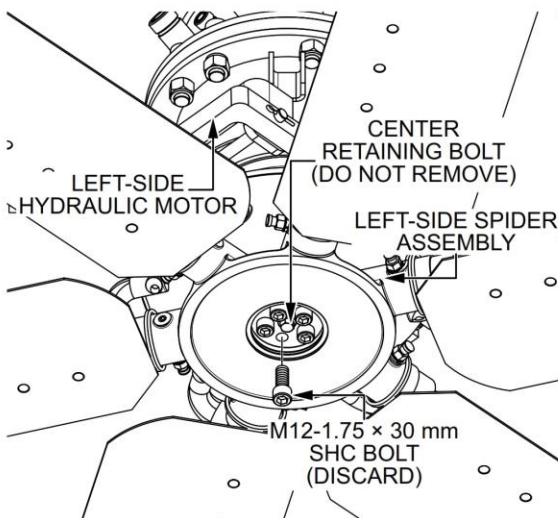

Figure 6. Remove Left-Side Spider Bolts
2. Remove and discard the five existing M12-1.75 x 30 mm SHC bolts (Figure 6) securing the left-side spider assembly to the bottom of the left-side hydraulic motor.